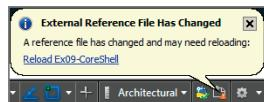

FIGURE 9.31 Balloon notification that an Xref has changed
9. A balloon appears in the drawing status bar informing you that an external reference has changed (see Figure 9.31). If no notification balloon appears, right-click the Xref that needs to be reloaded in the External References palette and choose Reload. Click the hyperlinked blue text in the balloon to reload the **Ex09-CoreShell** Xref. The changes made to the women's washroom are now visible in the tenant drawing.